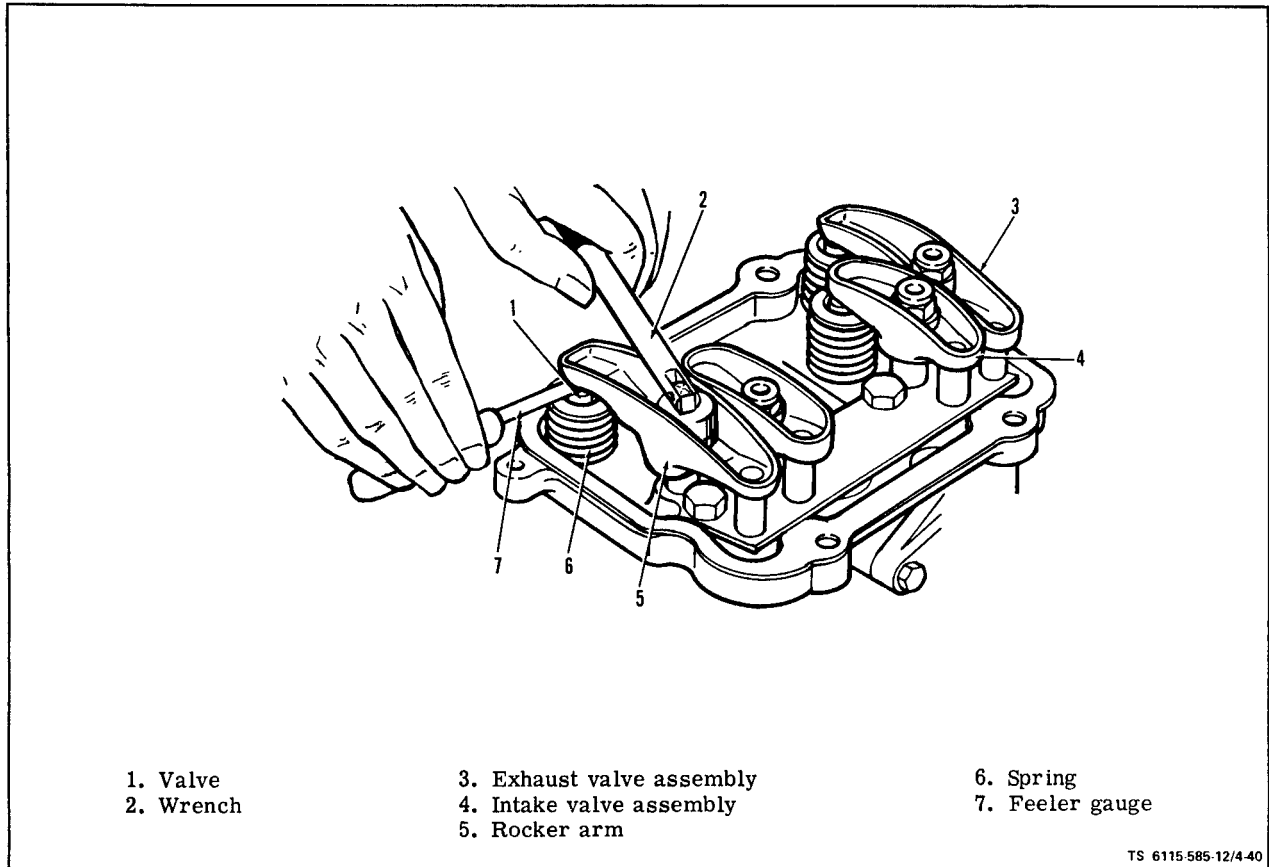

Figure 4-40. Checking and Adjusting Rocker Arm to Valve Clearance
a. Inspect (see figure 4-40). Inspect rocker arms for physical damage or excessive wear.
(1) Using 5/8" socket wrench and extension, turn the blower wheel clockwise until No. 1 cylinder is on its compression stroke, which follows the closing of its intake valve. See figure 4-40 for identification of intake valve assembly.
(2) Continue clockwise rotation until the letter "A" appears in the timing port on the side of the
(3) By using a feeler gauge, check the clearance between the rocker arm and the valve stem cap. See figure 4-40. Increase or reduce the clearance until the proper gap is established, adjusting with the locknut which secures the rocker arm to the cylinder head. Correct valve clearance is 0.010 for intake valve, 0.007 for exhaust valve.
(4) To adjust the valve clearance for No. 2 cylinder, turn the blower wheel clockwise 180° until the letter "B" appears in the timing port and adjust valves as given in step 3.
(5) Turn blower wheel an additional 180° until "A" again appears in the timing port and adjust valves for No. 4 cylinder as given in step 3.
(6) Turn blower wheel an additional 180° until "B" again appears in the timing port and adjust valves for No. 3 cylinder as given in step 3.
(7) Install rocker cover and tighten screws 7 to 8 ft-lb.